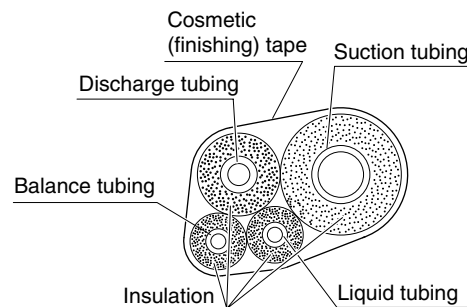

Fig. 6-7
- Thermal insulation must be applied to all unit tubing, including the distribution joint (purchased separately). (Fig. 6-7)